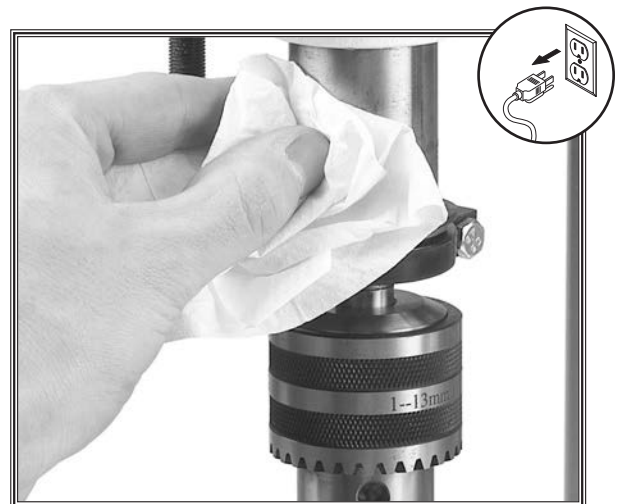

Figure 61. Cleaning quill.
2. Clean and lubricate quill (see **Figure 61**) as described in **Lubrication** on **Page 42**. Quill should travel freely.